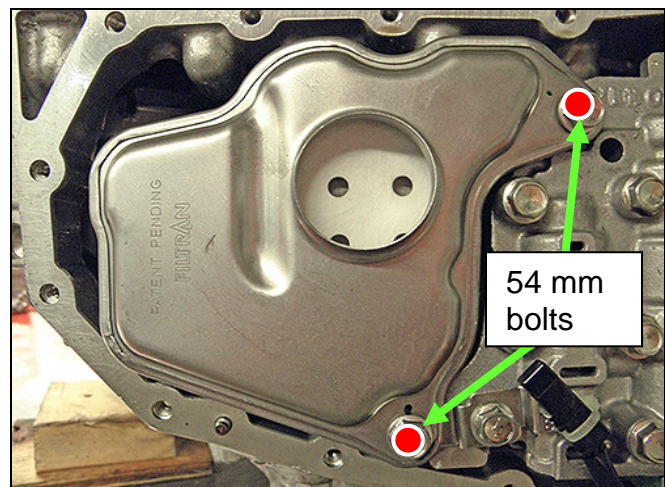

Figure 9
9. Install the new oil strainer with its new O-ring seal with two (2) bolts (Figure 9).